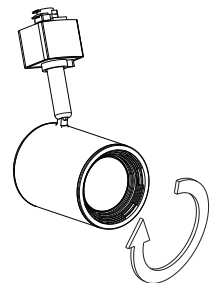

fig. 10
7. Push the module until the holder is tight with the edge of the fixture. Verify the module is not loose and fits tight with the fixture. If not rotate clockwise until it's secured. (fig. 10)